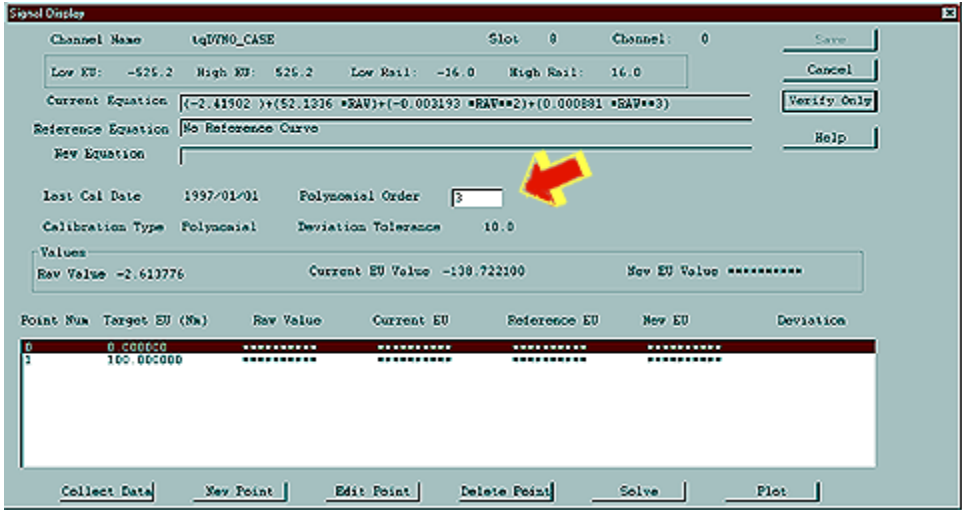

Figure 5
- The “Signal Display” screen will appear. See Figure 5. Next to “Polynomial Order” select the field area by doubleclicking on it and type in ‘3’.